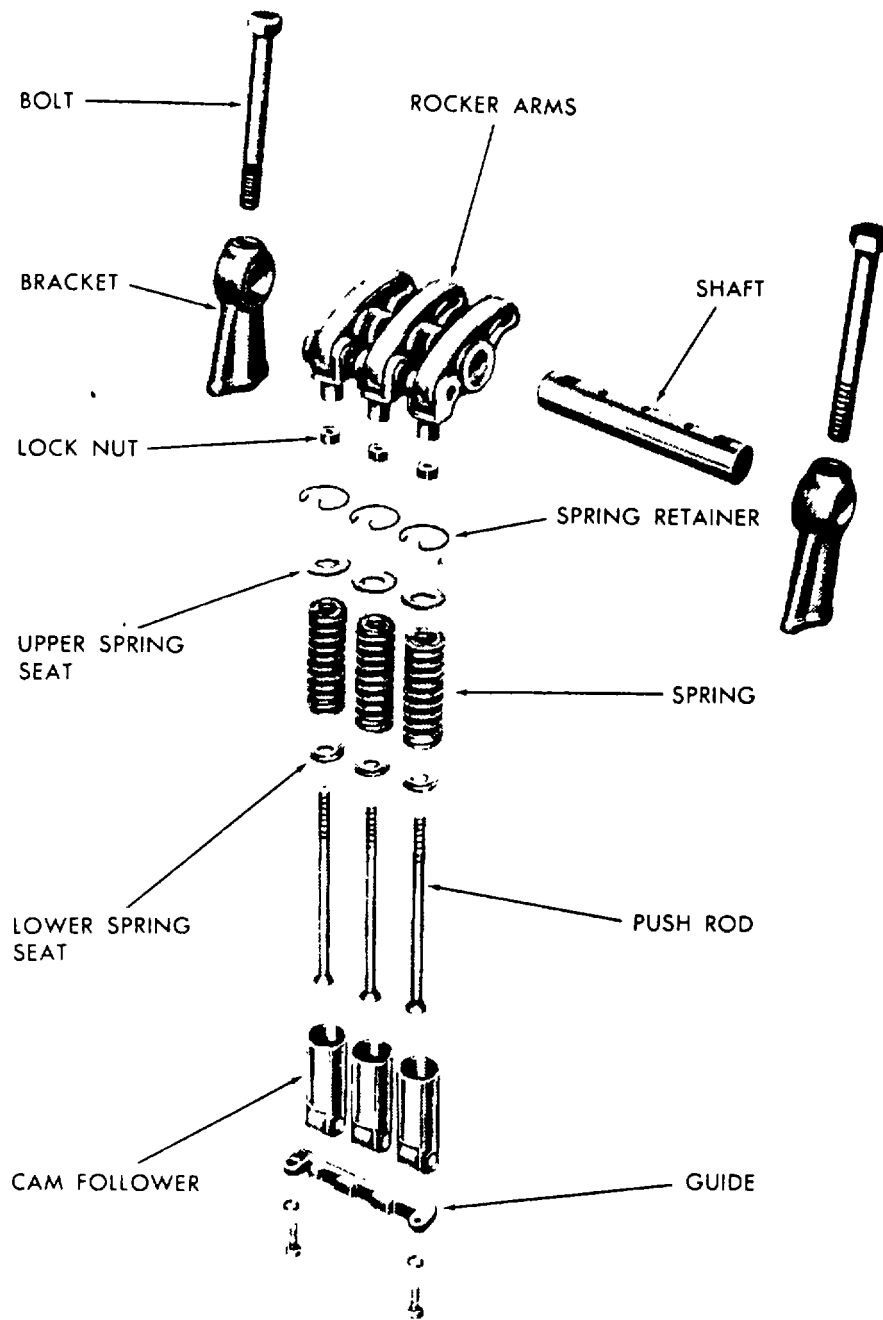

Figure 5-28. Cam Follower Disassembly and Reassembly.
- (1) For removal of push rod, push rod spring, spring seats and cam followers a push rod removal tool must be used.
- (2) Loosen push rod locknut at upper end of push rod, next to clevis, and unscrew rocker arm from push rod to be removed. Remove locknut from the push rod.
- (3) Install removal tool and flat washer on push rod. Screw nut down on end of push rod, to compress push rod spring.
- (4) Remove spring retainer from cylinder head with a screwdriver.
- (5) Unscrew nut at outer end of push rod, thus releasing push rod spring.
- (6) Pull push rod (Figure 5-28), upper spring seat, spring, lower spring seat and cam follower out of cylinder head.
(1) Proper cam follower inspection and service are necessary for continued efficient engine performance. When any appreciable change in injector timing or exhaust valve clearance occurs during engine operation, cam followers and their related parts must be removed and inspected for wear. This change during engine operation can usually be detected by excessive noise at idle speed.
(2) Wash all cam followers and related parts with cleaning solvent and dry thoroughly.
(3) Examine cam follower rollers (Figure 5-28), for scoring, pitting or flat spots. Rollers must turn freely on their pins. Measure total diametric clearance and side clearance. Install a new roller and pin if clearances exceed those specified.